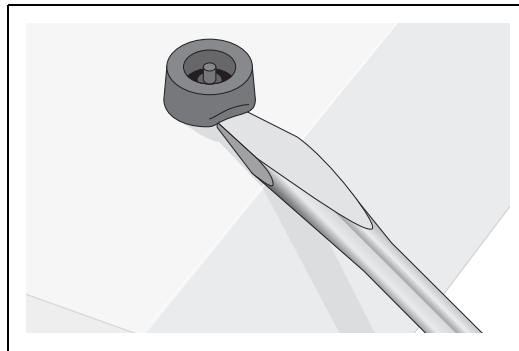

Figure 40. Removing the Feet
2. Using a flat-head screwdriver, remove the snap-on plastic feet from the bottom of the switch, as shown in Figure 40.